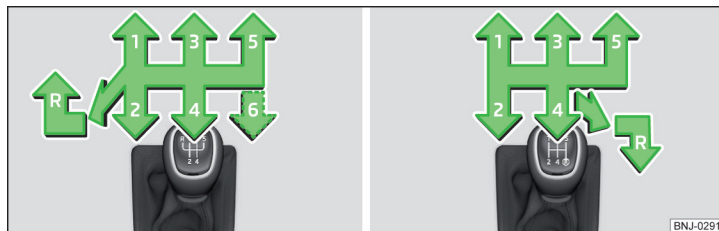

Fig. 119 The shift pattern: Variant 1 (5-speed or 6-speed manual gear-box)/ variant 2 (5-speed transmission with the 1.0 litre MPI engine)
On the gear lever, the shift pattern for the individual gear positions is shown » Fig. 119.
- Push the shift lever downwards fully to the left and then forward into **R**» Fig. 119.